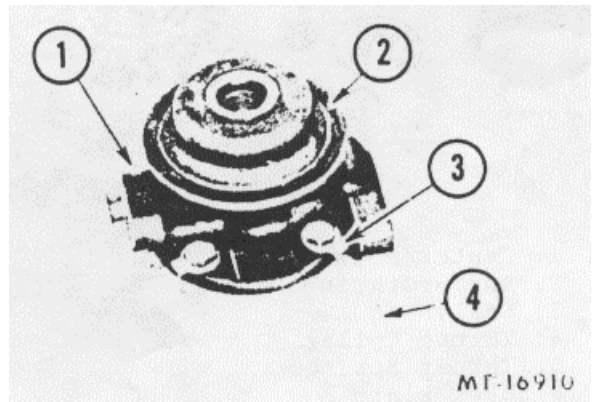

Fig. 17. Center Housing Assembly
10. Straighten the tabs on the lock plates and loosen the capscrews securing the center housing to the back plate (Fig. 17). Do not remove the capscrews in this position.